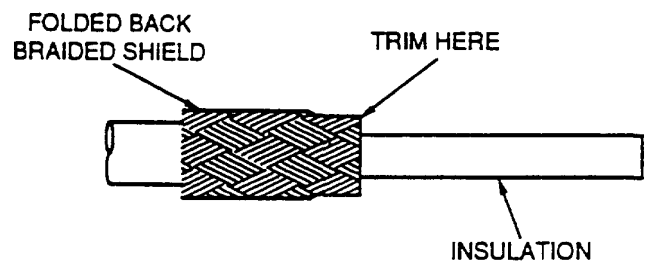

Figure 22. Fold Shield
b. Slide outer sleeve over braided shield to butt cut end of outer jacket as shown in Figure 22.
d. Fold braided shield back tightly over outer sleeve and trim braid at fold line as shown in Figure 22.
c. Fold braided shield back tightly over outer sleeve and trim braid at fold line (Figure 22).